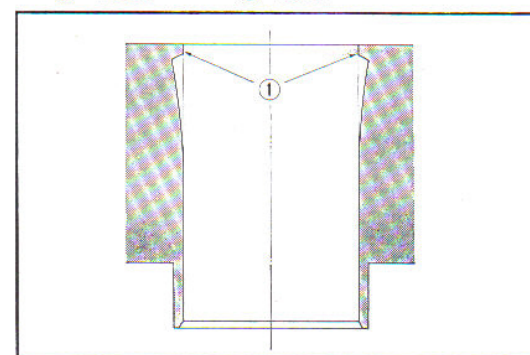

Fig. 3.54 ① Cylinder ridge
- When only the piston is to be replaced without the cylinder, the cylinder ridge should be removed with a ridge reamer. (Fig. 3.54)